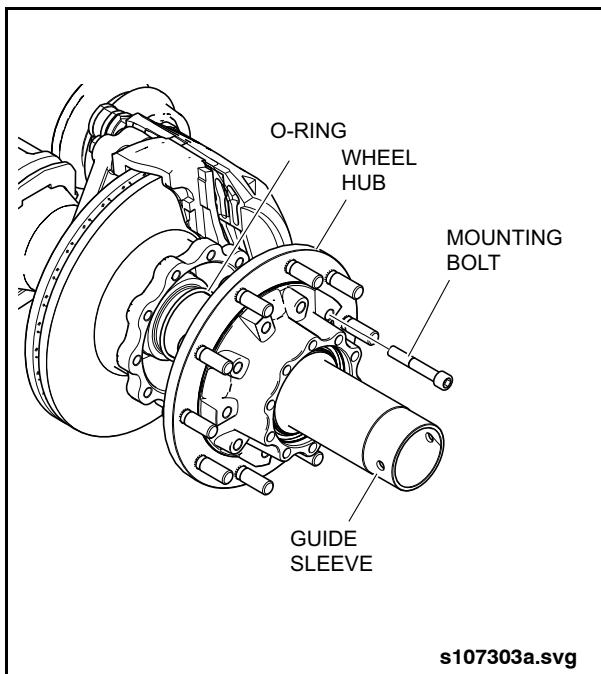

Fig. 2-18: Removing Wheel Hub
2. Install threaded Guide Sleeve (Item 13 from special tools list) onto the axle stub and lubricate guide sleeve surface. See "Fig. 2-18: Removing Wheel Hub" on page 20.